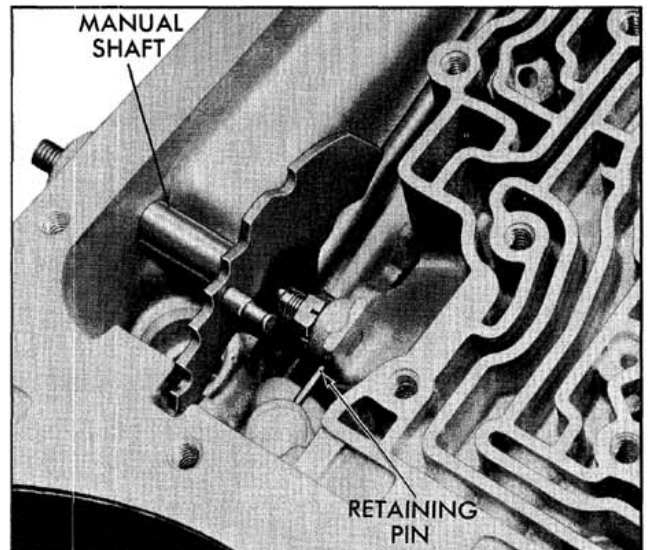

Fig. 6-61 Removing Retaining Pin
- b. Remove manual shaft retaining pin from case. (Fig. 6-61)